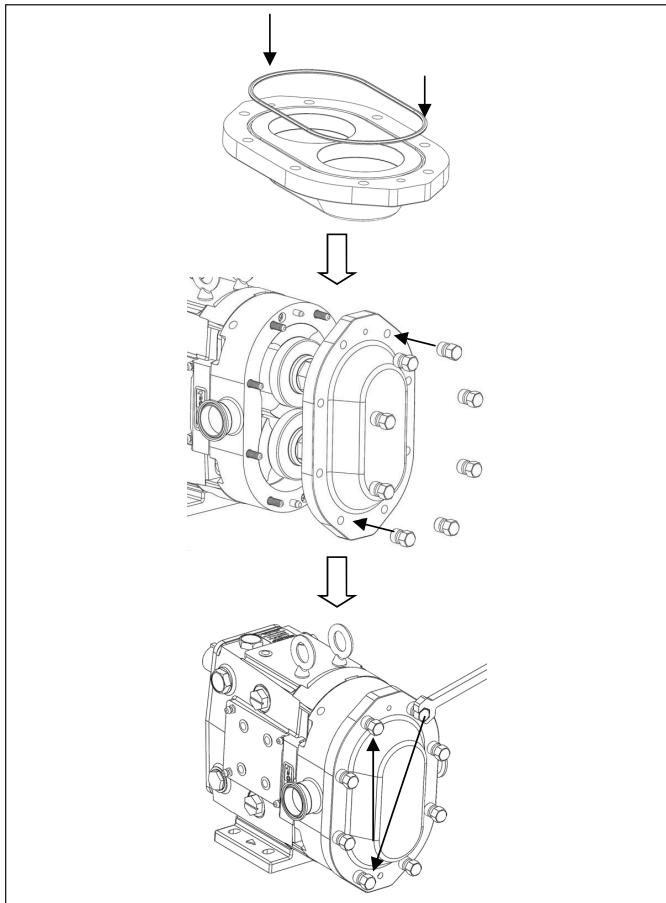

Figure 59. *Installing Cover Assembly*
3. Install the new cover o-ring and slide the cover over the studs making sure that the dowels in the body are aligned with the correct dowel holes in the cover (*Figure 59*). Visually inspect to ensure that the cover o-ring remained in place. Turn the cover nuts (clockwise) by hand and fully tighten them by using the appropriate wrench. Tighten the rotor nuts in an opposing manner as seen in *Figure 59*, so that the cover is evenly tightened to the body.